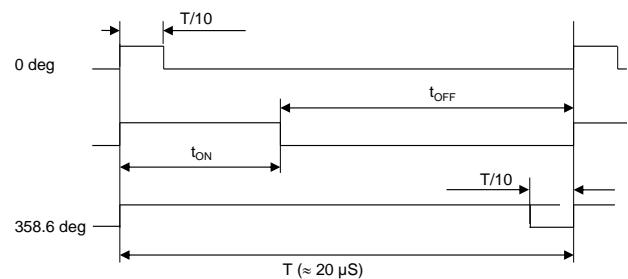

Figure 16: Timing Diagram of the PWM Output
This output provides a logic signal with a duty cycle proportional to the angle of the magnetic field. The PWM frequency is close to 50kHz (the nominal period is 20 μ s). The duty cycle is bounded by a minimum value (1/10 of the period) and a maximum value (9/10 of the period) (see Figure 16). This means that the duty cycle varies from approximately 10% to 90% with a resolution of eight bits. The angle can be retrieved by measuring the on time. Since the absolute PWM frequency can vary from chip to chip or with the temperature, accurate angle detection requires the measurement of the duty cycle (i.e.: the measurement of both the on time (t_{ON}) and the off time (t_{OFF})). The angle can be calculated with Equation (5):